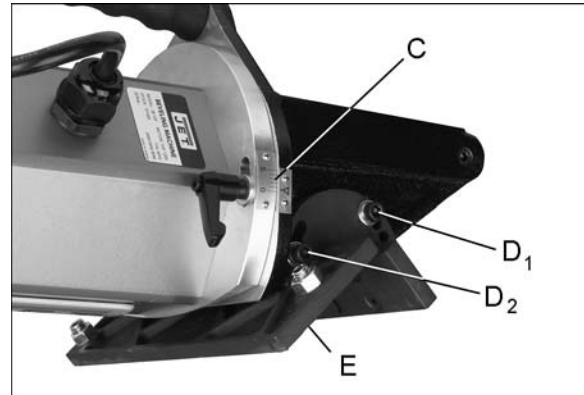

Figure 7-2: adjustments
2. Rotate knob (B) until desired depth is shown on scale in millimeters (C, Figure 7-2). NOTE: The scale is only a general guide based upon 45° position. Actual depth will vary depending upon chamfering angle.
3. Retighten locking handles (A).
1. Remove stop screw (D₁, Figure 7-2) on both sides of machine.
3. Tilt guide plate assembly (E) until screw hole aligns with 15, 30 or 45 degrees.
2. Remove 4 screws (D₁, D₂, Figure 7-2) and lift off guide plate assembly.